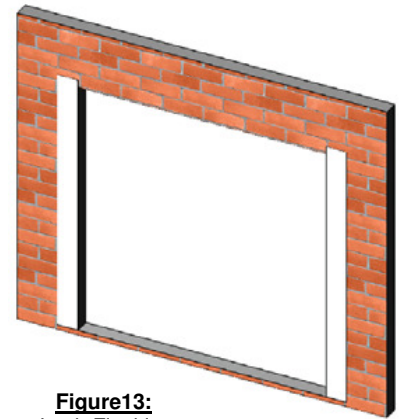

Figure13:
2. At each jamb, embed the flashing paper into the sealant onto mounting flange and fasten into place. The flashing paper should be cut sufficiently long enough to extend at least 3 inches past the weep-screed or diado flashing and at least 6 inches above the head of the window (Figure 13).